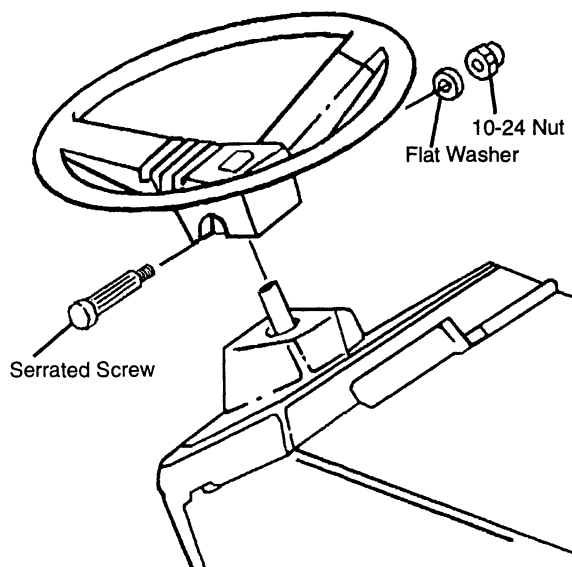

FIG. 2
- Remove the steering wheel from its packaging and place on the steering shaft with the center spoke pointing towards the rear of the tractor. (See Fig. 2)